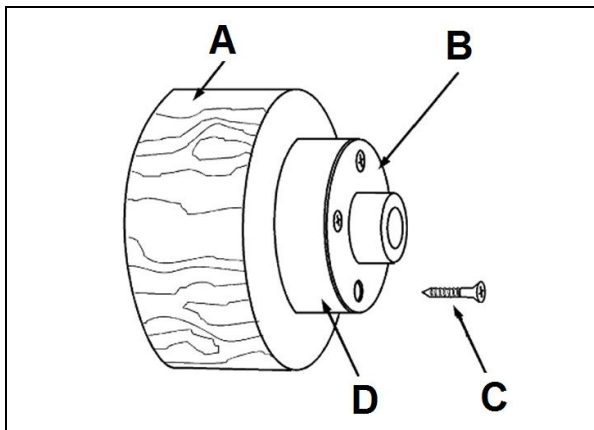

Fig 28
Mount the workpiece (A, Fig 28) directly to the face plate using 4 wood screws (C) from the back. Be careful to use screws short enough not to interfere with the cutting process but long enough to hold the workpiece securely to the face plate.